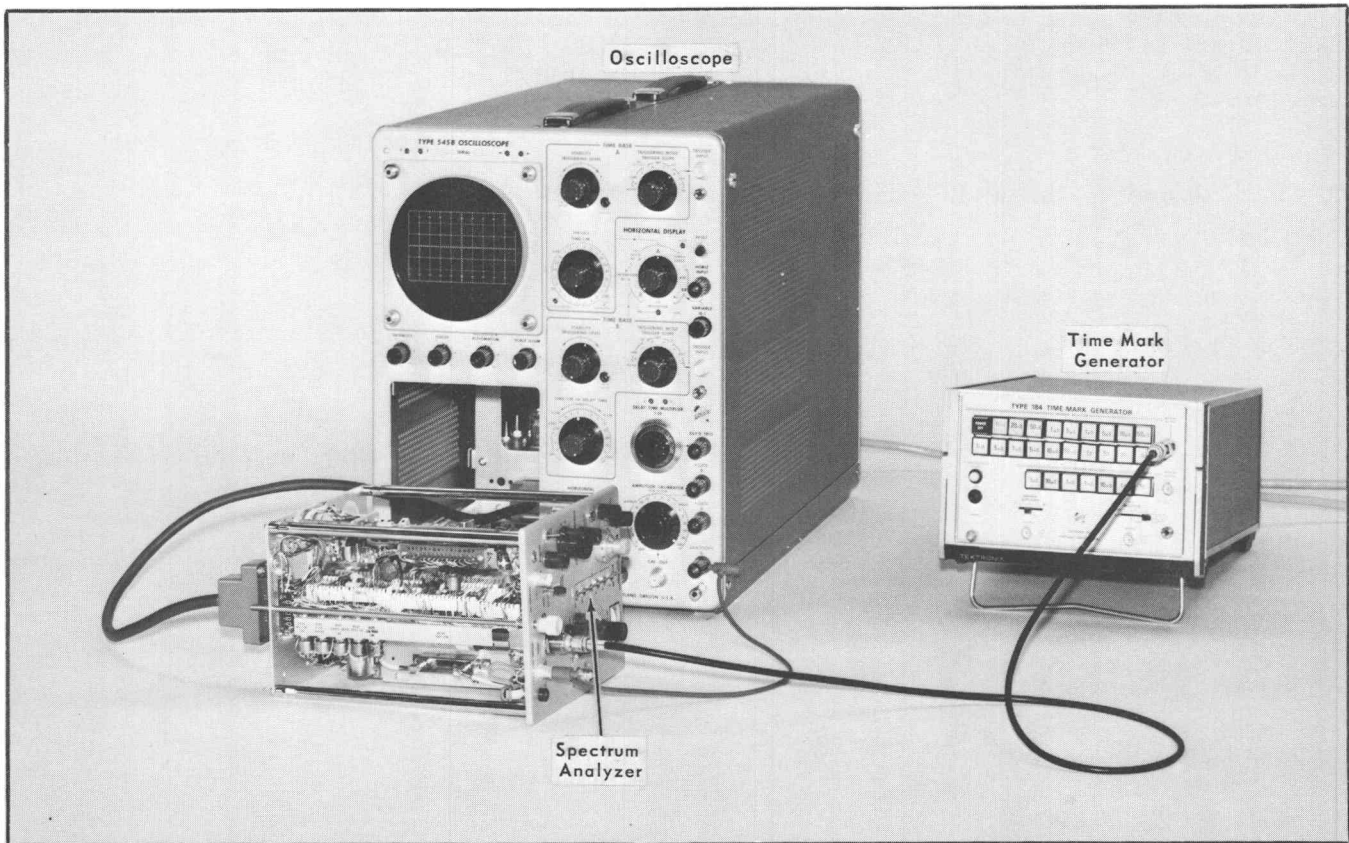

Fig. 6-12. Setup for Steps 5 and 6.
- a. Connect the equipment as shown in Fig. 6-12.
b. Connect the equipment as shown in Fig. 6-12. Set the generator for 100 MHz and 10 MHz markers.
b. Connect the equipment as shown in Fig. 6-12 except for the Time-Mark Generator which will not be used for this step.